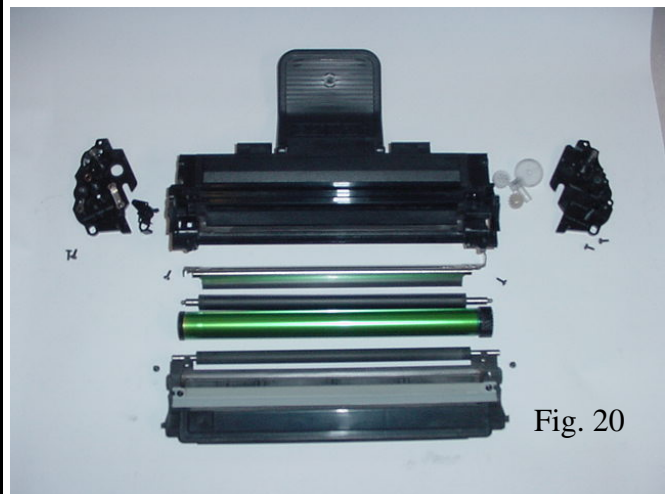

Fig. 20
20. Clean, inspect and replace all components. Add toner and reassemble in reverse order (Fig. 20).